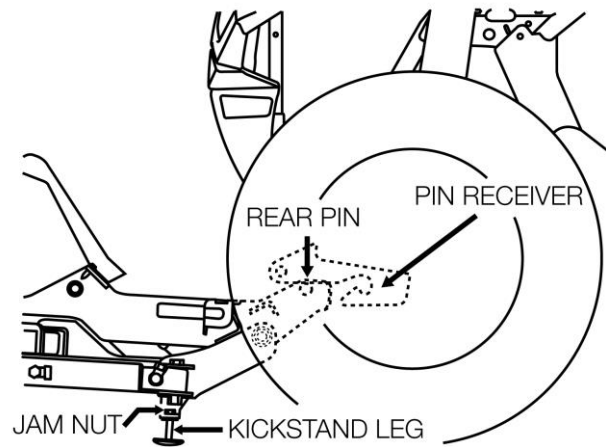

Figure 13. Kickstand Adjustment
4. Rotate the Kickstand Leg (9A/B) to adjust the height of the plow system up or down until the Rear Pin of the Coupler contacts the bottom flat portion of the Pin Receiver of the Undercarriage as shown in Figure 13. (If additional height is required, install the longer Kickstand Leg included with the Plow System).